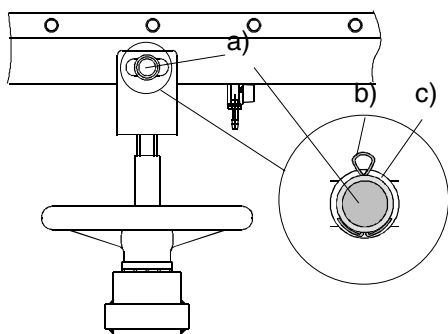

Fig. 2.10
- Mount the segment in the other side of the movable bearing pedestal such that the bolt is seated **in the centre of the slot** of the bearing fork (Fig. 2.10). Grease bolt $\varnothing 20$ before inserting it.